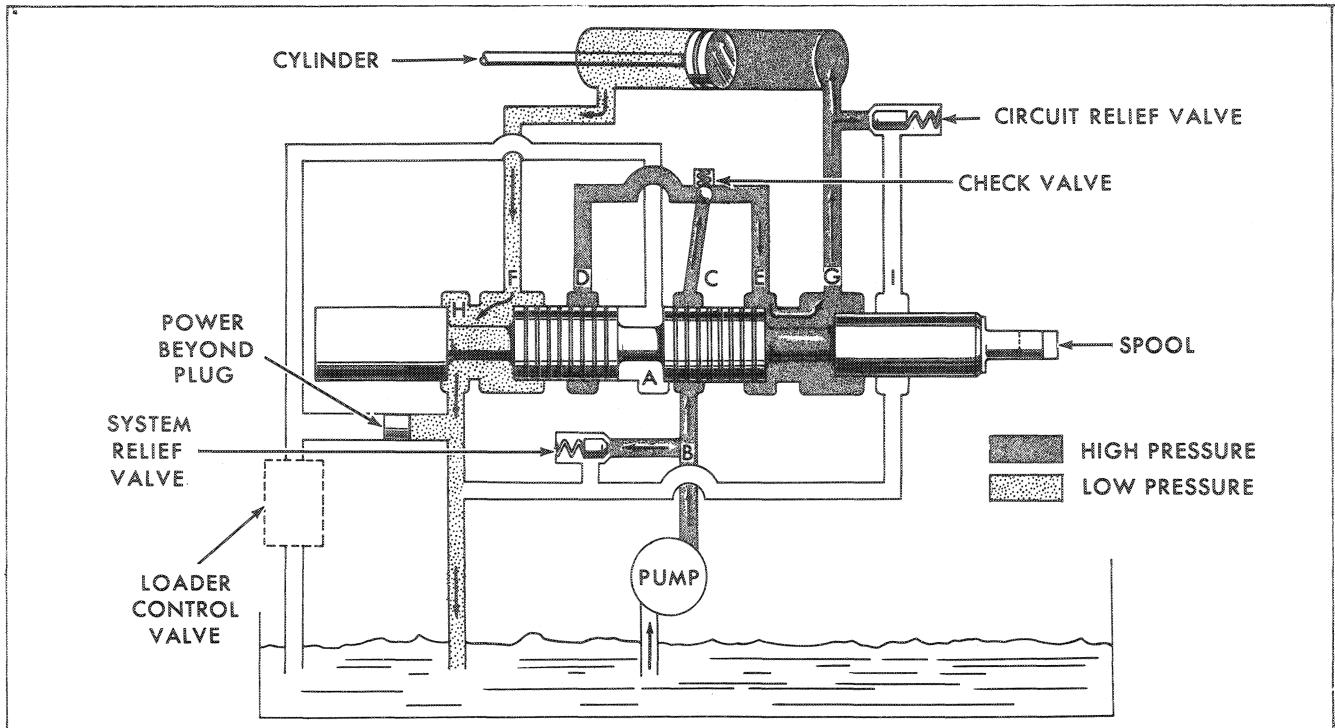

Figure 5
**Spool Operation:** If a control valve spool is moved from its neutral position, pump oil is blocked from following the zigzag course through the main control valve to the valve outlet. Figure 5 shows a control valve spool moved from neutral to block oil and direct it to a cylinder. With the spool moved, the oil is directed to the high pressure passage (C), unseating the check valve. The oil then flows through passage (E), by the spool, to hose port (G) and out to the cylinder. Because the cylinder piston offers resistance to oil flow, the oil pressure increases until a force sufficient to move the piston is developed by the pressure buildup. As the piston moves in the cylinder, displaced oil (in the case of double-acting cylinders) is forced from the opposite end of the cylinder. This oil enters the main control valve at hose port (F) and flows into the return passage (H) to the valve outlet and on to sump. If the control valve spool is moved to the opposite position, a reversal of the oil flow takes place. The check valve closes as soon as oil flow stops.
**Cylinder Circuit Check Valve (Poppet):** The spring-loaded check valve located in each circuit, Figure 5, prevents the cylinders from dropping under load. The check valve functions when the spool is initially shifted from its neutral position and before the pump has time to build sufficient pressure to overcome the external load.